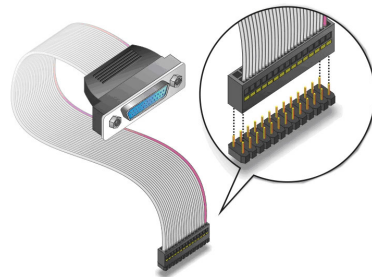

Figure 5-16: LPT Cable Connection
Step 2: Align the connectors. Correctly align pin 1 on the cable connector with pin 1 on the 2808130 LPT box-header connector. See Figure 5-16.
Step 3: Insert the cable connectors Once the cable connector is properly aligned with the 26-pin box-header connector on the 2808130, connect the cable connector to the on-board connector. See **Figure 5-16**.